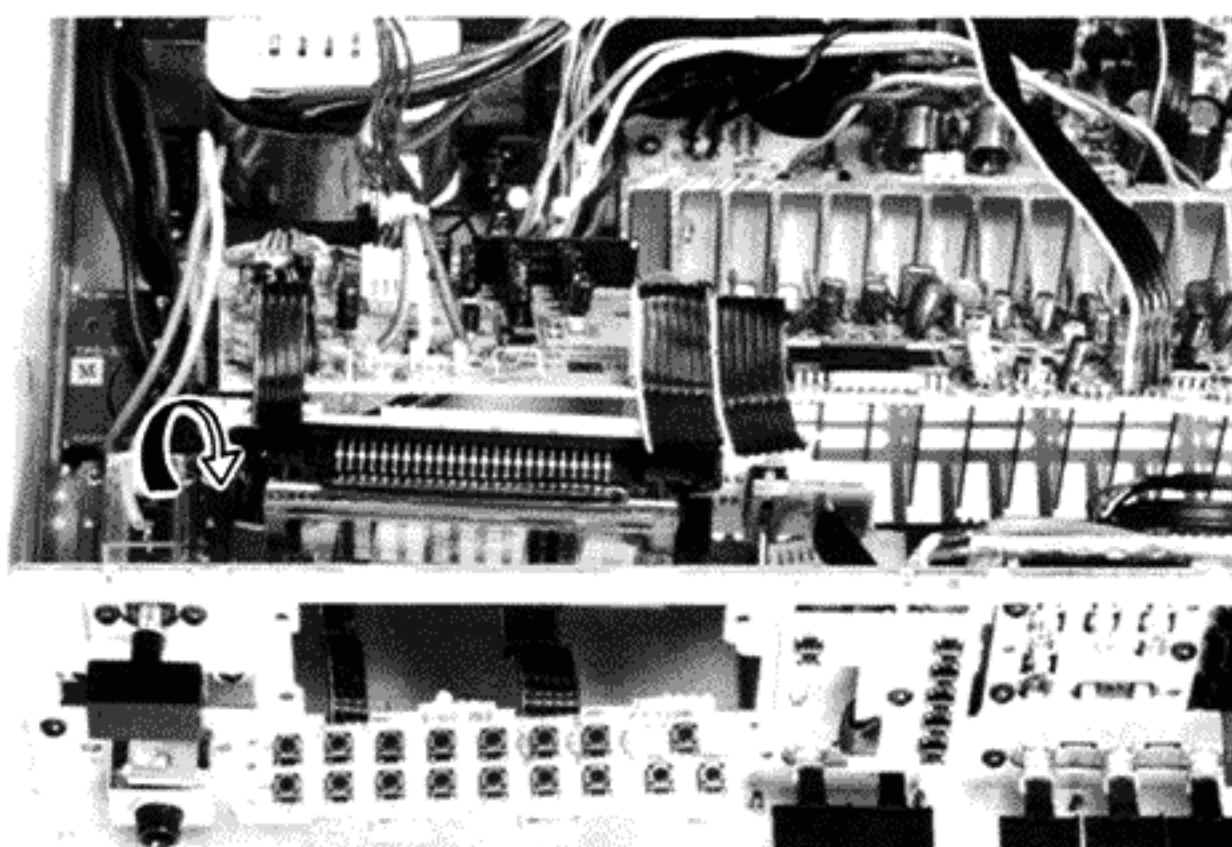

Fig. 5
4. Pull out the display P.C. board ass'y upward while shifting it inward, as shown in Fig. 5.